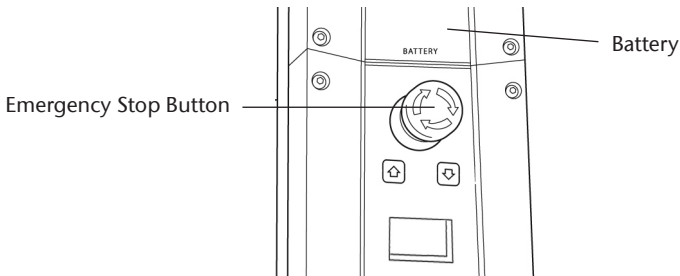

Fig. 7
6. Clip the battery onto the control box and ensure the red emergency stop button, located on the controller is in the out (ON position) by turning clockwise (Fig. 7).